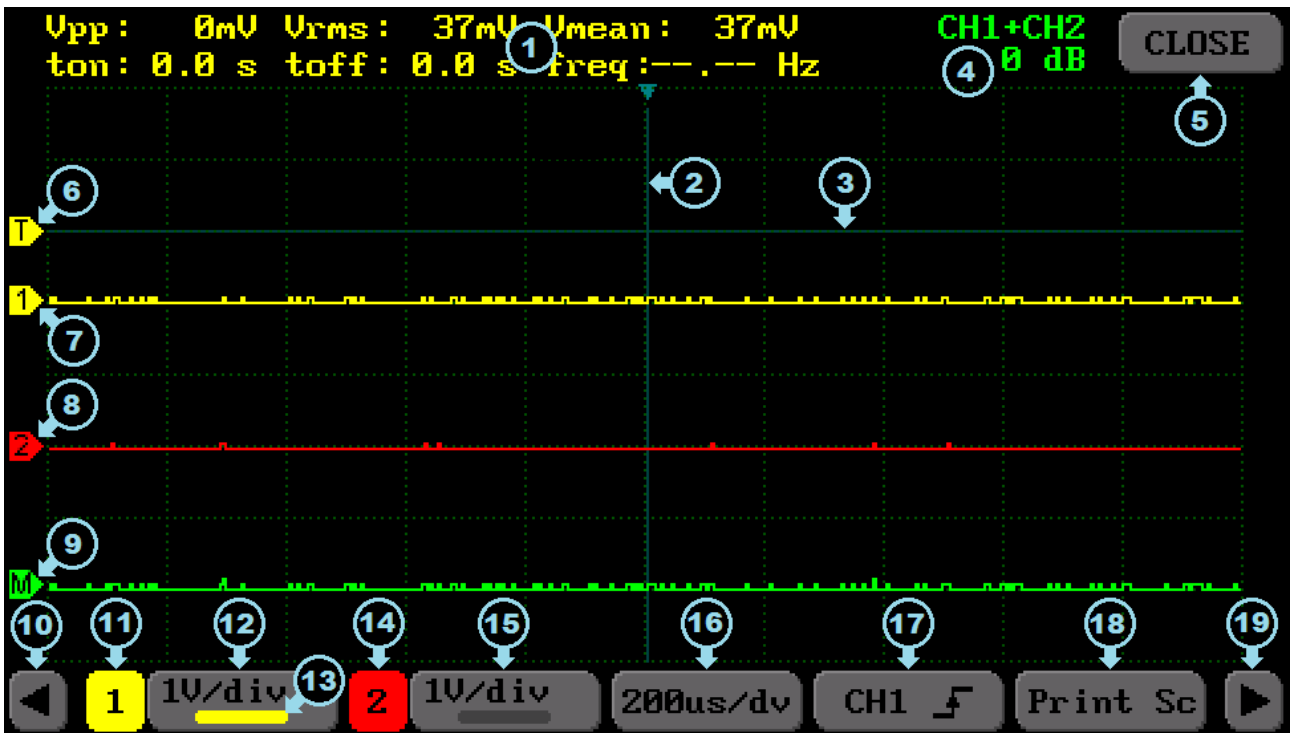
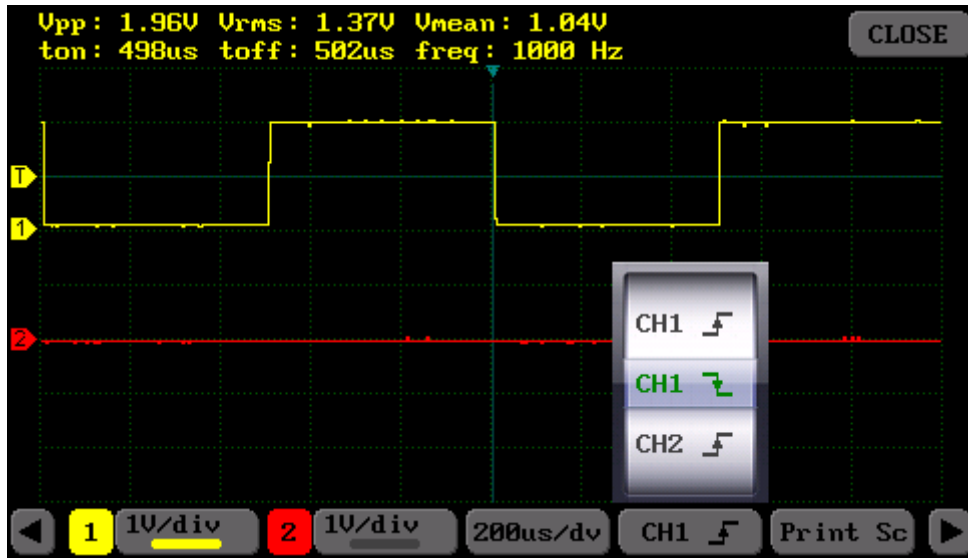
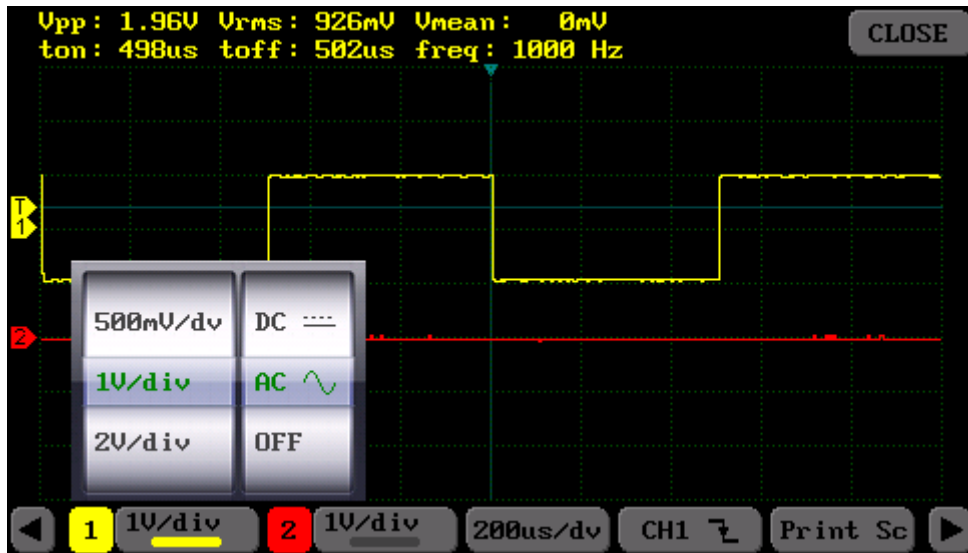

Figure 3a. Oscilloscope mode – Menu1
Figure 4. Trigger Menu
Figure 5. Setting menu for Channel 1
To keep the observed signal constant on the display, the trigger source must be selected for that channel. Otherwise, it will be difficult to observe because the signal will be very moving on the display. To choose the trigger source, trigger menu should be opened by pressing the button shown as 17 in the Figure 3a. Then, trigger channel and trigger edge should be selected from the menu seen in the Figure 4.
On the purpose of observing the signals clearly on the screen, there may be needed to adjust for every single channel. To adjust the Channel-1, the button numbered (12); to adjust the Channel-2, the button numbered (15) should be selected (Figure 3a). The Channel-1's setting menu is seen in the Figure 5. It consists of two parts: In the menu's left side, vertical sensitivity can be arranged a value ranging from 10mV/div to 10V/div. In the right side of the menu, coupling option can be adjusted as AC or DC. OFF position should be selected to avoid appearing signal on the screen. In a similar way, the settings can be made via the menu numbered (15) for the Channel-2.
The buttons on the left side of channel setting buttons (11 and 14), provides channel selecting. The required signal via channel tuning can be resituated by sweeping upright on the screen. The selected channel's info is seen in (13) (the selection in the Figure 3a is for Channel-1).
The horizontal sensitivity can be arranged ranging from 50 ns/div to 5s/div value. As it seen in the Figure 3a, this tuning can be performed from the menu numbered (16).
To perform measurement on the observed signal, 'Cursor' menu is used. 'Cursor' menu could be activated by selecting the button which is seen as (22) in the Figure 3b (Menu 2). To switch to Menu 2, the buttons providing switching among the menus are used (in the Figure 3a, (10) and (19) buttons).